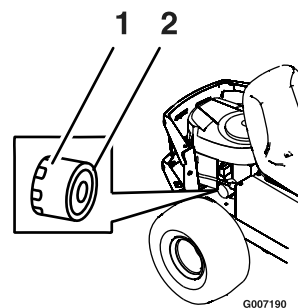

Figure 4
8. Remove the old filter and wipe off the mounting pad (Figure 4).